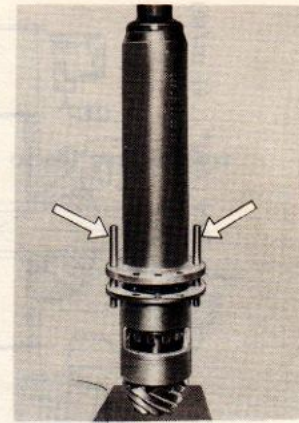

Fig. 10
11. Press housing extension with paper joint onto pinion bearing housing, using two guide bolts (Fig. 10).